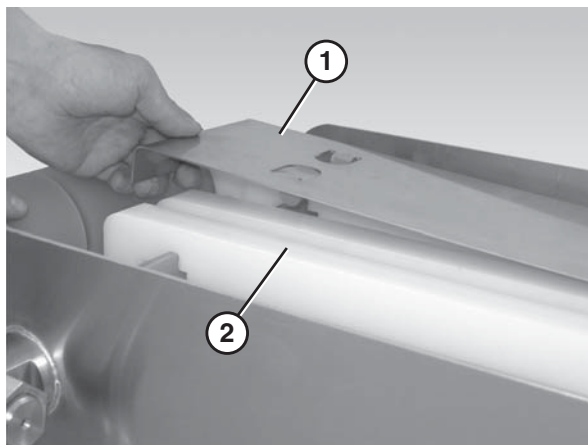

Figure 26
2. Place the sheet bed plates (Figure 26, item 1) over the wear strips (Figure 26, item 2).